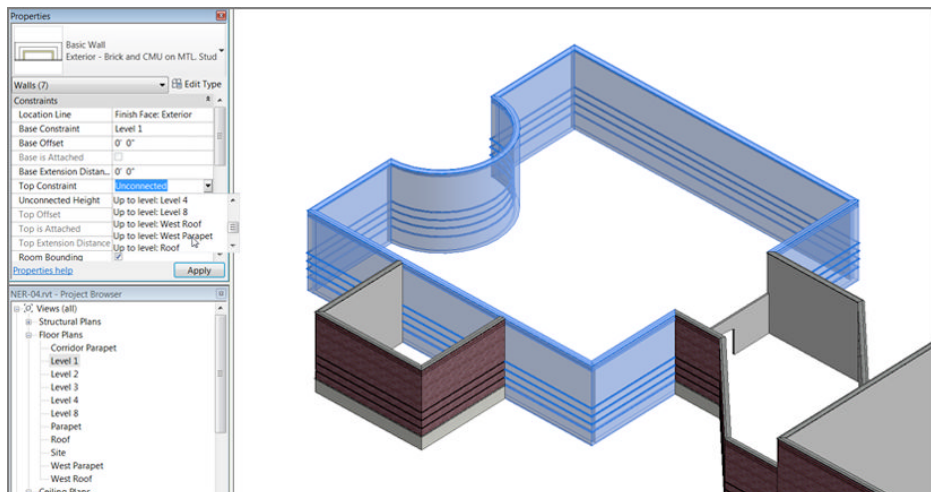

FIGURE 3.29: Selecting the west part of the building
2. In the 3D view, select the west side of the building, excluding the corridor and the three walls to the south, as shown in Figure 3.29. You should have seven walls selected. To check this, look in the lower-right corner of the Revit window. You see a filter icon with the number 7 next to it. (You need to press and hold the Ctrl key for multiple selections.)